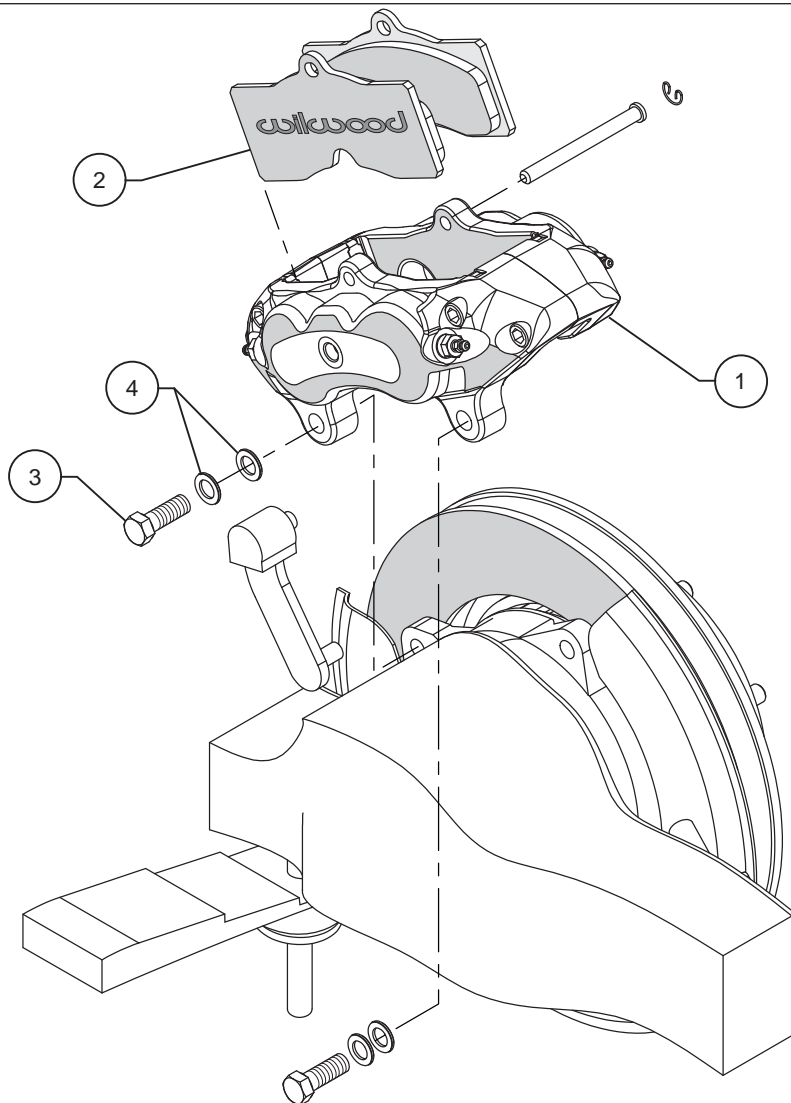

Figure 1. Typical Installation Configuration
- Place the Wilwood D8 caliper (1) in the exact position as the original caliper. Secure the caliper to the OEM mounting bracket by sliding bolt (3) through two washers (4), as shown in Figure 1, using red *Loctite*[®] 271 on the bolt threads. Torque bolts (3) to 55 ft-lbs.
- Remove the caliper pad retaining pin from the caliper (1) by popping out the pin retaining clip and sliding out the pin. Slide the brake pads (2) into place. They should install easily without interference. Reinstall the pad retainer pin and secure using the pin retaining clip.